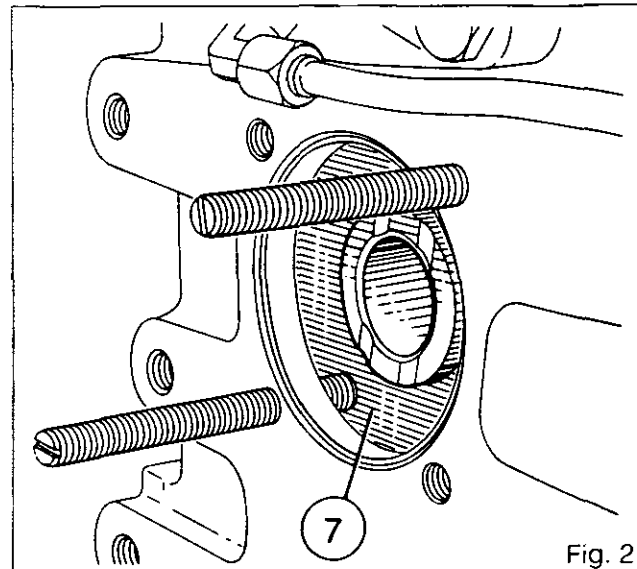
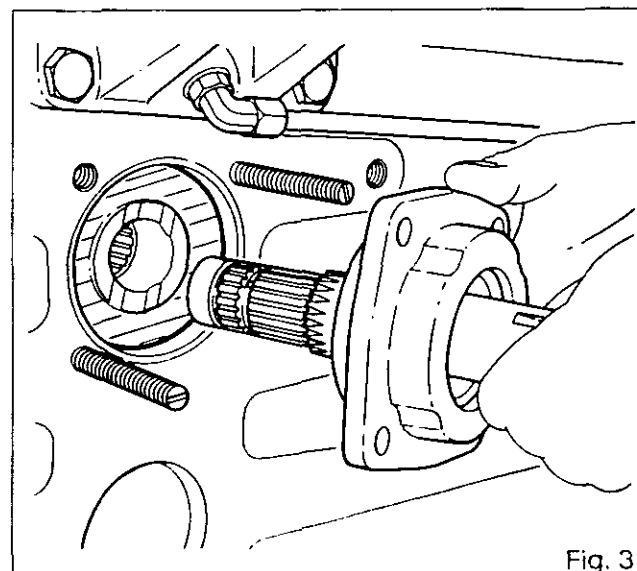

Fig. 2
Fig. 3
4. Screw two guide studs against the gear (7). The purpose of this is to hold the gear (4) and (7) (Fig. 2), the hub and the coupler in line when removing the shaft (13) and the cover assembly.
5. Remove the other two bolts (15).
6. Withdraw the shaft and cover assembly (Fig. 3). Discard the O-ring (18).
7. Replace the O-ring (18). Fit the shaft and cover assembly (Fig. 3).
8. Smear Loctite 542 on two screws (15) then tighten to a torque of 105 - 120 Nm.
10. Smear Loctite 542 on the other two screws (15) then tighten to a torque of 105 - 120 Nm.
**Note: If the bushes (19) and (20) are damaged, replace the gears (4) and (7).**
32. Engage the coupler (5) with the gear (7). Screw two guide studs against the gear (7). The purpose of this is to hold the gears in line (Fig. 2), when refitting the rear bearing assembly.
34. Smear Loctite 577 (sensor sealing or equivalent) on the thread of the PTO sensor (16). Fit and adjust the sensor:
a) Without forcing screw the sensor in contact with the gear (7).
c) Tighten the nut (17) moderately and connect the harness.
35. Refit the fork (25) with the pads (24) and (27), held on the fork by two spots of miscible grease (Amber Technical or equivalent).
36. Fit a new O-ring (23). Fit the selector rail (22) with lever (21).